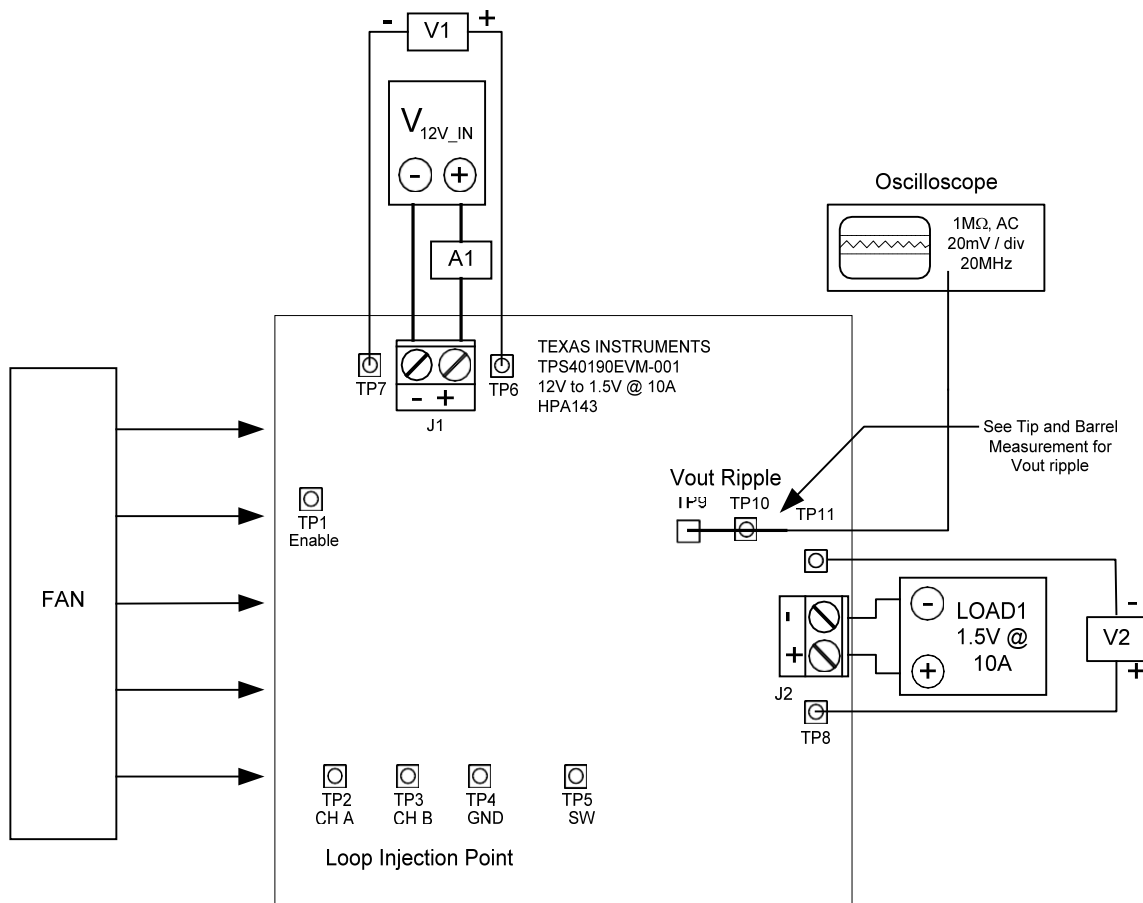

Figure 4-1. TPS40190EVM-001 Recommended Test Setup
TP 9 and TP 10 can be used to measure the output ripple voltage by placing the oscilloscope probe tip through TP 9 and holding the ground barrel to TP 10 as shown in Figure 4-1. For a hands-free approach, the loop in TP 10 can be cut and opened to cradle the probe barrel. Using a leaded ground connection may induce additional noise due to the large ground loop area.
Figure 4-1 is the basic test setup recommended to evaluate the TPS40190EVM-001. Please note that although the return for J1 and J2 are the same, the connections should remain separate as shown in Figure 4-1.
2. Prior to connecting the DC input source, V12V_IN, it is advisable to limit the source current from V12V_IN to 5.0-A maximum. Make sure V12V_IN is initially set to 0 V and connected as shown in Figure 4-1.
3. Connect the ammeter A1 (0-A to 5-A range) between V12V_IN and J1 as shown in Figure 4-1.
4. Connect voltmeter V1 to TP6 and TP7 as shown in Figure 4-1.
5. Connect LOAD1 to J2 as shown in Figure 4-1. Set LOAD1 to constant current mode to sink 0 A_{DC} before V12V_IN is applied.
6. Connect voltmeter V2 across TP8 and TP11 as shown in Figure 4-1.
7. Connect an oscilloscope probe to TP9 and TP10 as shown in Figure 4-1 Figure 3.
8. Place a fan as shown in Figure 4-1 and turn on, making sure air is flowing across the EVM.
1. Connect a 1-kHz to 1-MHz isolation transformer to TP2 and TP3 as shown in Figure 4-1.
2. Connect an input signal amplitude measurement probe (Channel A) to TP2 as shown in Figure 4-1.
3. Connect an output signal amplitude measurement probe (Channel B) to TP3 as shown in Figure 4-1.
4. Connect the ground lead of Channel A and Channel B to TP 4 as shown in Figure 4-1.